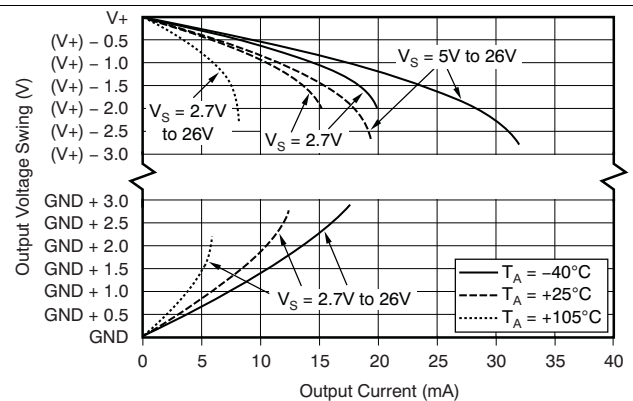

Figure 6. Output Voltage Swing vs Output Current
(1) RTI = Referred-to-input.
(2) See Typical Characteristic curve, *Output Voltage Swing vs Output Current* (Figure 6).